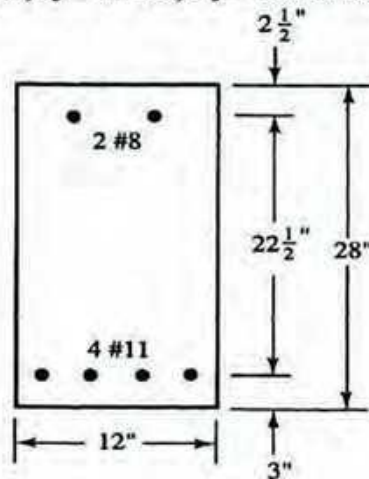

Fig. 4
5. a) Differentiate between USD and WSD. Which method of design provides maximum factor of safety? Justify your answer. (2)
- b) A rectangular beam has a width of 12" and an effective depth to the centroid of the tension reinforcement of 17". The tension reinforcement consists of three no. 9 bars in a row. Calculate the design moment capacity of the beam using both USD and WSD. Given, $f'_c = 5$ ksi, $f_y = 60$ ksi, $f_s = 24$ ksi, $E_s = 29000$ ksi, $E_c = 3222.22$ ksi. (8)
6. a) Write down the ACI specifications for determining the effective width of T-beams and L-beams. (2)
- b) Define development length. Explain the relationship of (i) Location of reinforcement (2) and (ii) Coating of bars, with development length by means of the factors Ψ_t and Ψ_e . (2)
- c) Calculate the nominal and design moment capacity of the beam shown in Fig. 4. (6)